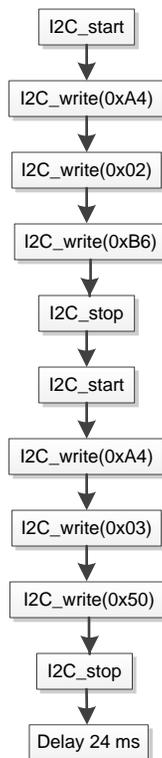

Figure 4. I²C Command Chain for Writing to EEPROM
Figure 4 describes the command chain for writing to EEPROM. First, enter the program key (0xB6) in the device control register (0x02), and then immediately after, set the eeWrite bit to 1 (0x50) in the EEPROM control register (0x03). If the eeWrite bit is not set directly after the program key is entered, the program key will be reset.